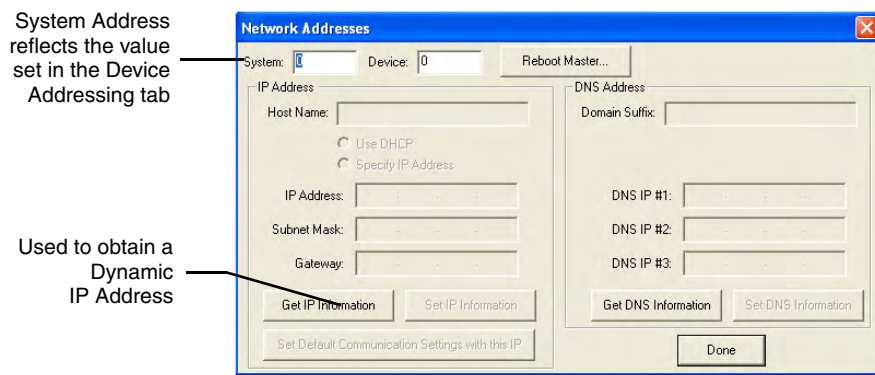

FIG. 36 Network Addresses dialog (for a DHCP IP Address)
1. Select **Diagnostics > Network Addresses** from the Main menu to access the Network Addresses dialog (FIG. 36).